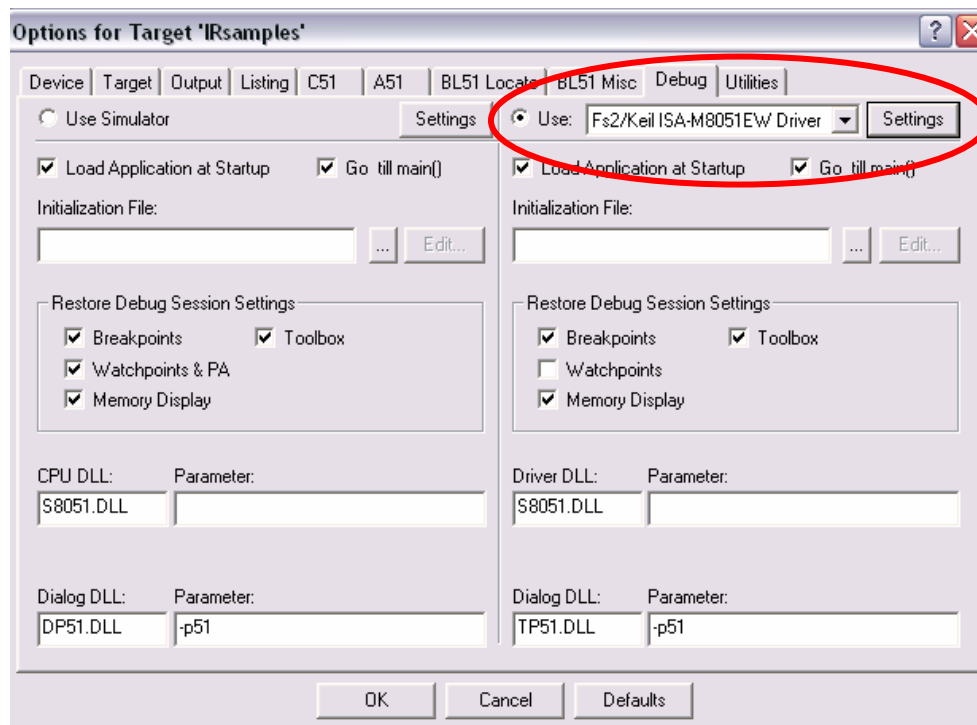

Figure 6—Debug Options window for a uVision project
3. Click the radio button “Use:” and set the field to its right to *Fs2/Keil ISA-M8051EW Driver*, as shown in Figure 6 below. If this option does not appear in the list, the FS2 software has not been installed properly.